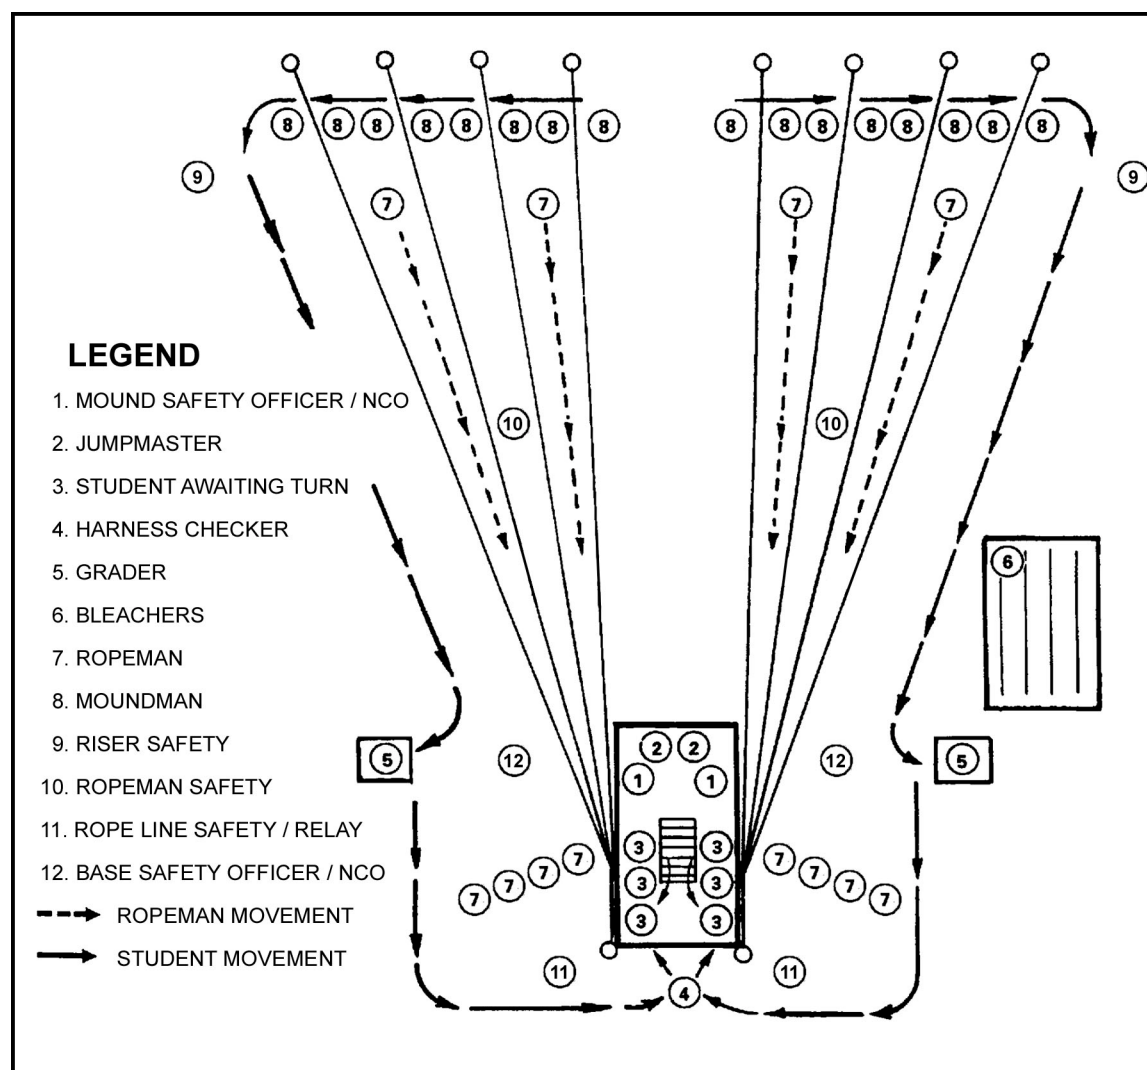

Figure 4-10. Tower personnel positions.
a. **Instructors.** A minimum of seven instructors are required to operate this apparatus. Their positions are indicated in Figure 4-10.
- (1) Two JMs hook up students in the tower and issue the last two jump commands.
- (2) One harness checker inspects all harnesses before students exit the tower.
- (3) Two graders on the ground critique and grade the students' performance on the apparatus.
- (4) Two mock door instructors correct students on problem areas and give them additional practice.